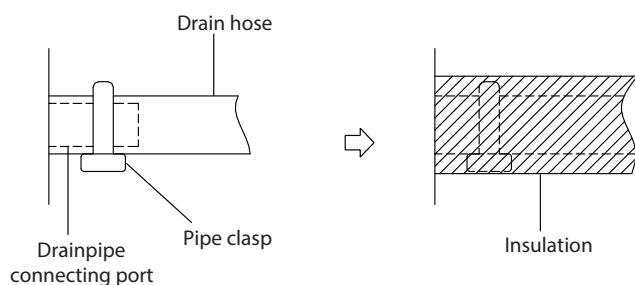

Fig. 6.1
2. Attach the mouth of the drain hose to the unit's outlet pipe. Sheath the mouth of the hose and clip it firmly with a pipe clasp. (Fig 6.1)